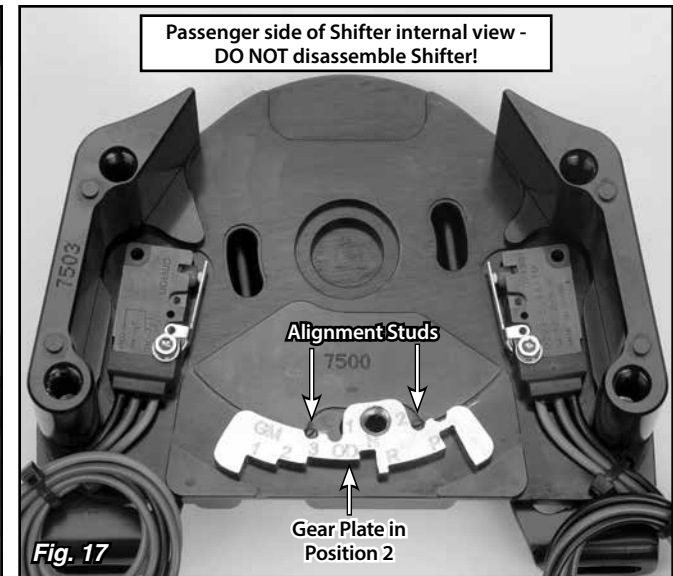
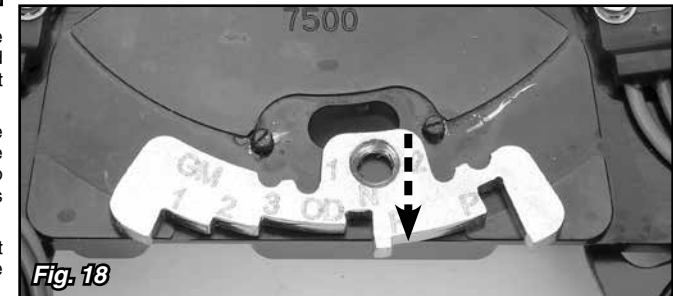
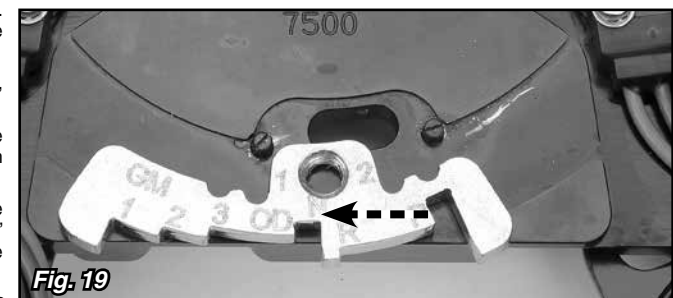
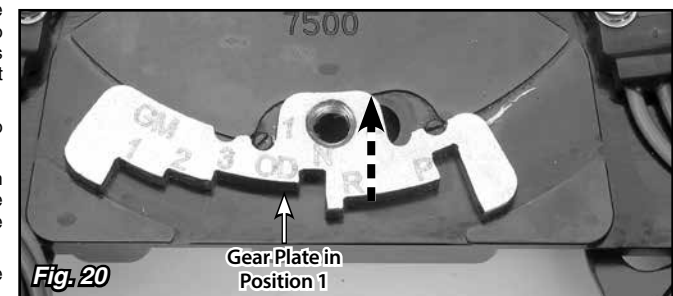

Fig. 17
Fig. 18
Fig. 19
Fig. 20
**The Shifter in Fig. 17 through Fig. 20 has been disassembled ONLY FOR PHOTOGRAPHIC CLARITY. DO NOT disassemble the Shifter for this procedure!**
- Step 4:** Note the relationship of the notches in the top of the gear plate to the alignment studs protruding from the side plate in **Fig. 17**. There is a "1" and a "2" on either side of the gear plate bolt hole. In **Fig. 17**, the "2" is closest to an alignment stud, showing the gear plate is in Position 2.
Lift the gear plate slightly so it clears the recess in the side plate, and move the gear plate slightly towards you so it clears the alignment studs. **Fig. 18** Move the gear plate to the left (**Fig. 19**) and then forward into its new position so the studs are in the other pair of notches. Now, the "1" on the gear plate is closest to an alignment stud (Position 1). **Fig. 20**